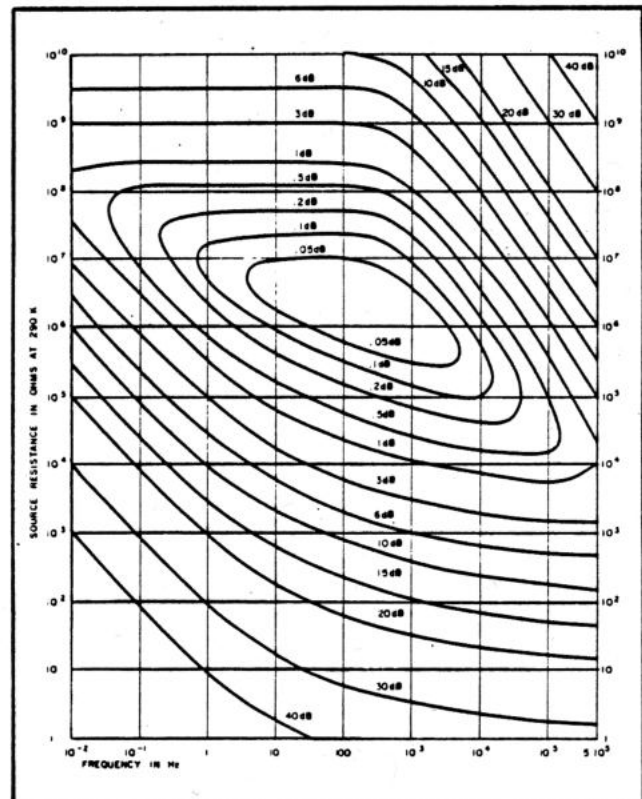

Figure III-1. TYPICAL NOISE FIGURE CONTOURS
Each amplifier has its own characteristic noise figure, which varies as a function of frequency and source resistance. These figures are obtained experimentally, and plotted graphically. Figure III-1 is a typical set of noise figure contours for the Model 113.
From Figure III-1, the noise figure for the Model 113 at a center frequency of 1500 Hz and a source resistance of 50 ohms is 18 dB. Substituting these values into equation (3):
Occasionally the dc component is not required, so that the best noise performance can be achieved with the help of an input transformer. This is possible by taking advantage of the property of a transformer to multiply the source resistance by the square of the turns ratio and the voltage by the ratio. With a transformer inserted between the signal source and the amplifier input we can increase the effective source resistance to a value that reduces the noise figure to less than 0.05 dB. From Figure III-1, the source resistance should be about 1 megohm. The transformer turns ratio, for this impedance increase, is $\sqrt{R_2/R_1} = 140$. Thermal source noise at the amplifier input is equal to the noise generated by the 50 ohm source multiplied by the turns ratio. With a noise figure near zero, the total equivalent rms input noise is also equal to the noise generated by the 50 ohm source multiplied by the turns ratio, $= 70 \mu\text{V rms}$. Although the numerical value of equivalent input noise is much larger than before, the signal-to-noise ratio is substantially increased. This can be seen by considering all of the transformed source signal voltage as appearing at the amplifier input terminals, because the Model 113 input resistance is much larger than the 1 megohm presented by the transformer; the signal-to-noise ratio is equal to the maximum possible value: $e_{\text{sig}}/E \times \text{antilog NF}/20 \cong e_{\text{sig}}/E$. In this example the transformer increases the signal-to-noise ratio by a factor of 8.